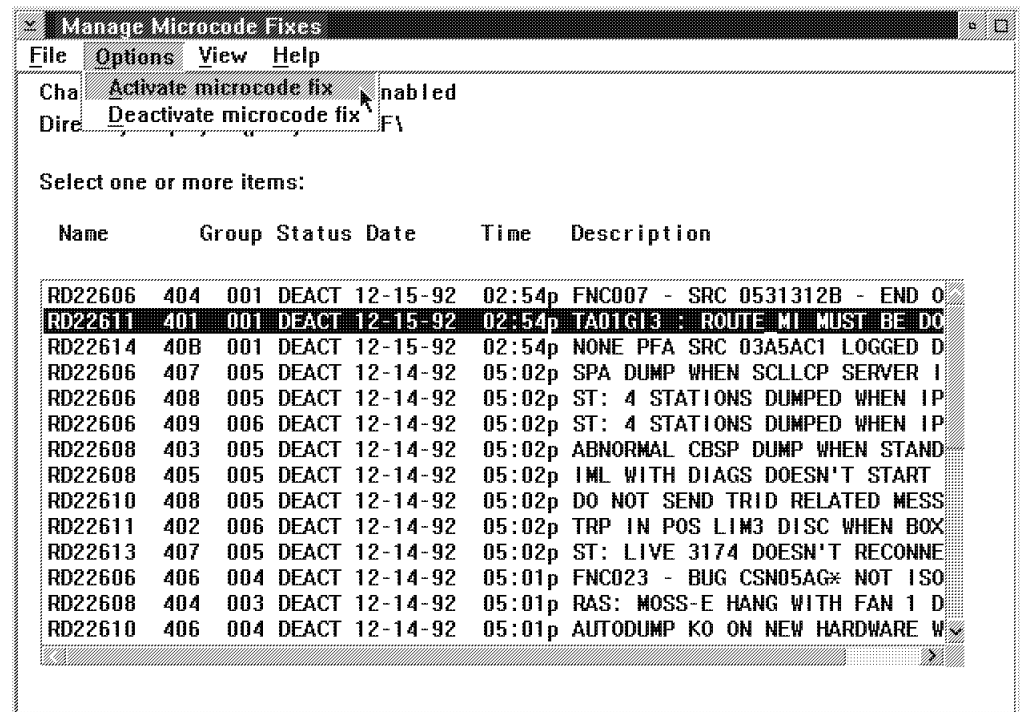

Figure 2-12. Manage Microcode Fixes
18. \_\_\_\_ Click on the lines of the MCFs to be applied (see example in the Figure 2-12).